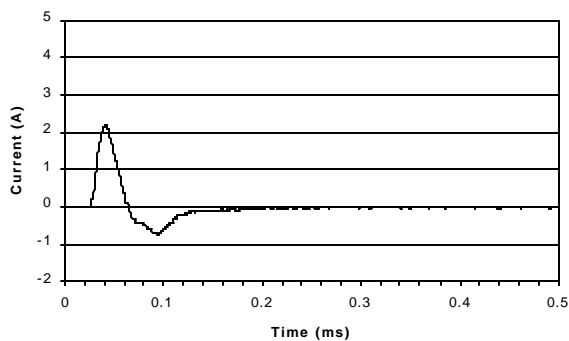

Figure 39. Dry Condition Current Output.
**Shock Intensity:** Current output for dry and wet conditions is shown in **Figures 39** and **40**.